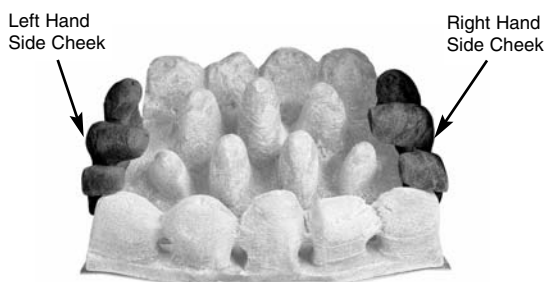

Fig. 28
4. Place the side cheeks into position, making sure they are positioned either side of the fuel bed and the overhang is at the front. The outside edge should be in contact with the radiant box ceramic liner. Ensure that the lower part of the side cheeks sit on the front coal and are in front of the rear coal (Fig. 28).